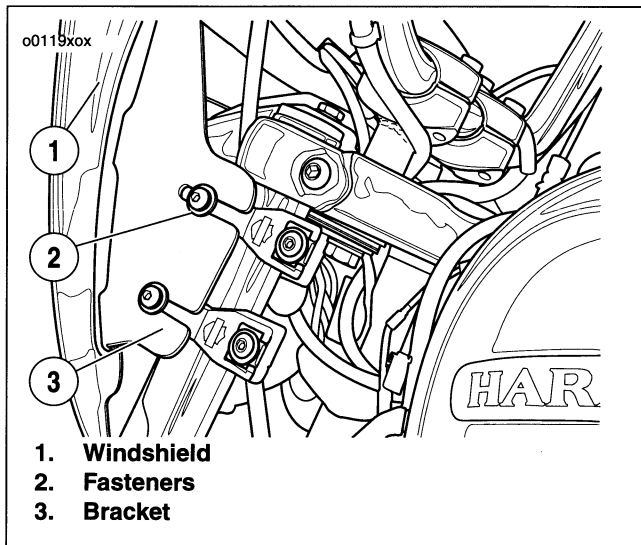

Figure 28. FXDS-CONV Windshield Assembly
1. See Figure 28. Loosen (but do not remove) mounting fasteners on both left side and right side of the adjustable windshield assembly.